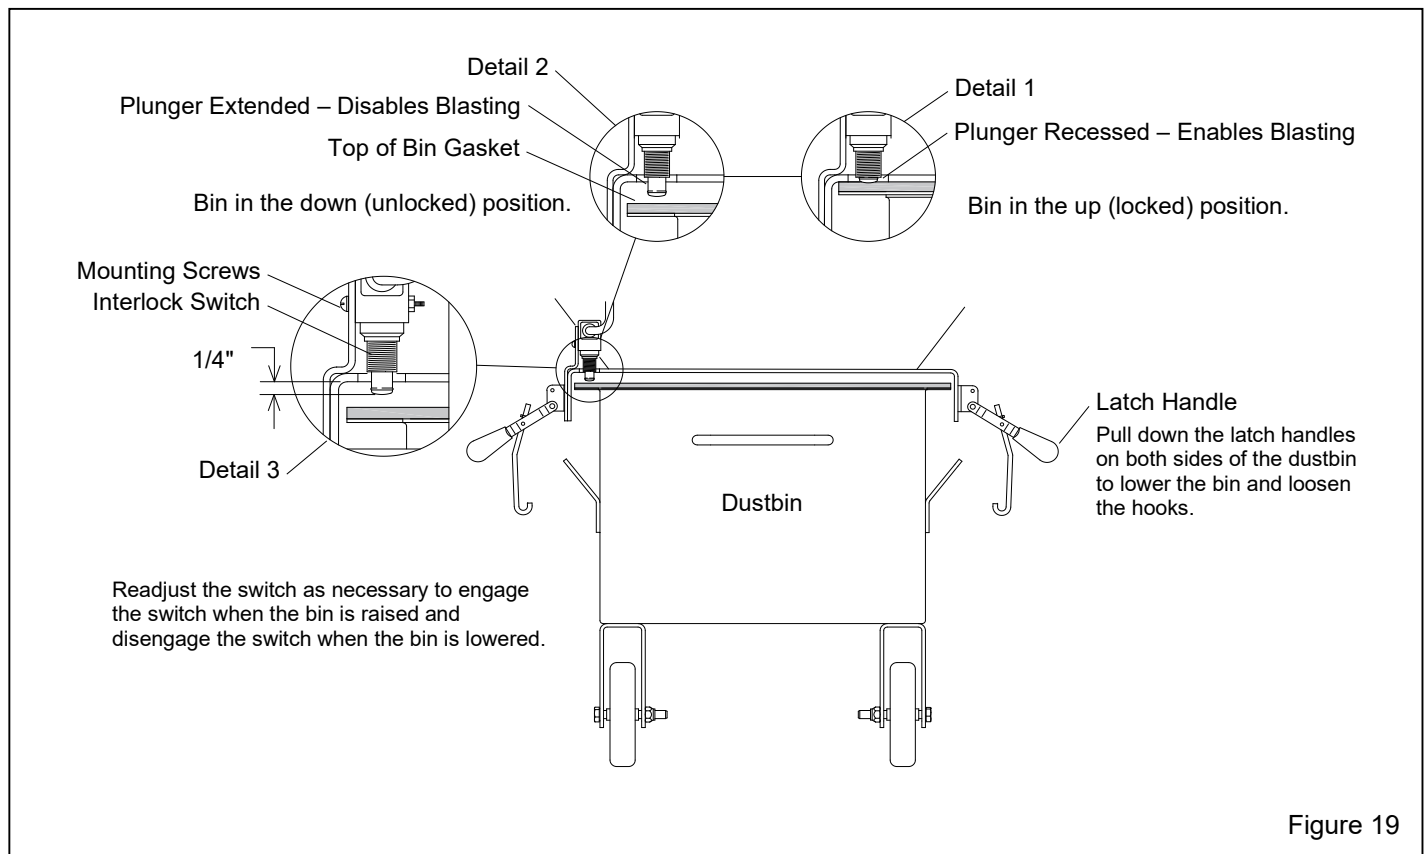

Figure 19
5.6 Dustbin Interlock – Figure 19
5.6.2 To enable blasting, the interlock switch must be engaged when the bin is closed (raised against the dust-collector hopper), as shown in the Detail 1 Circle in Figure 19. The interlock is set at the factory and does not normally require field adjustment unless parts are replaced. When adjustment is required, proceed as follows:
5.6.3 To disable blasting and permit removal of the dustbin, the top of the bin must clear the switch, as shown in the Detail 2 Circle in Figure 19.
5.6.4.2 Loosen the switch's mounting nuts. Move the switch up or down as necessary to obtain approximately 1/4" between the bottom of the hopper flange and bottom of the switch's plunger, as shown in the Detail 3 Circle in Figure 19.